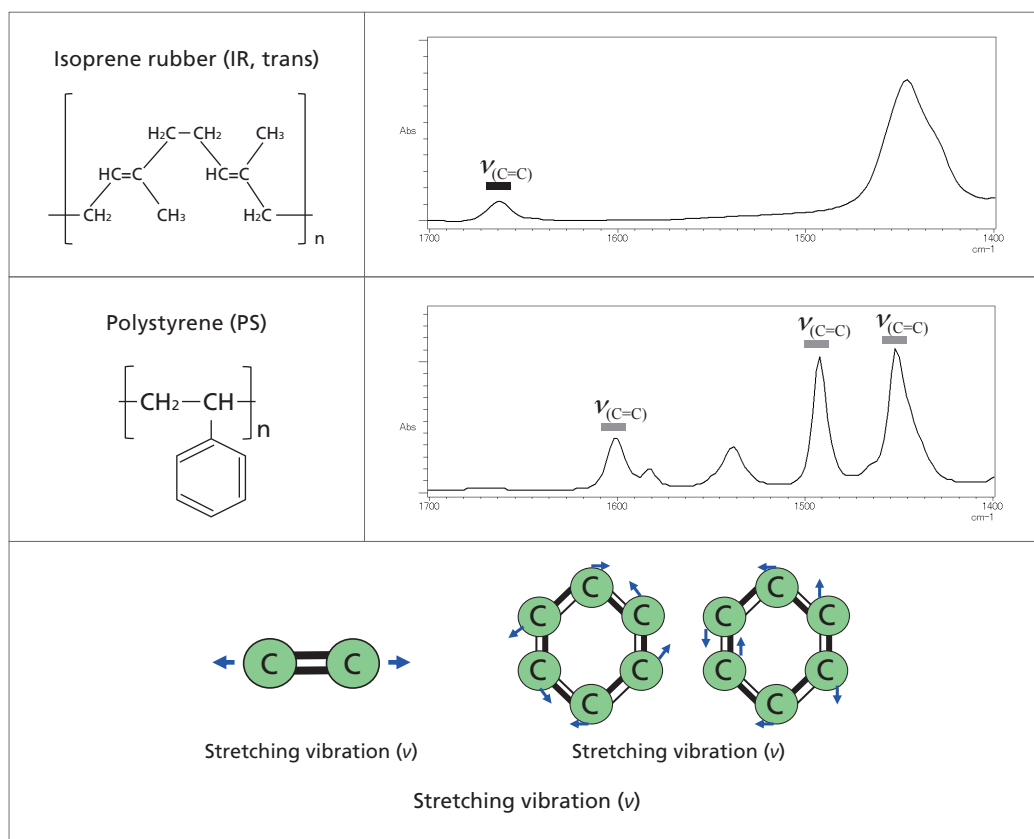

Figure 3: Peak Attributions in the 1,650 to 1,450  $\text{cm}^{-1}$  Region [1]
Next, we will discuss peaks caused by C=C stretching vibrations that appear at around 1,650  $\text{cm}^{-1}$  and 1,600  $\text{cm}^{-1}$  that can be used to distinguish between olefins and aromatics. Figure 3 shows the spectra of isoprene rubber (IR) and polystyrene (PS) in the 1,700 to 1,400  $\text{cm}^{-1}$  region.